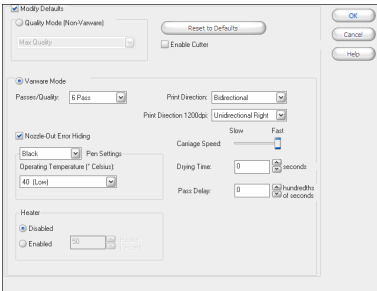

Figure 12—Printer Settings
2. Choose **Edit > Printer Settings**. This opens the Printer Settings dialog (see Figure 12).